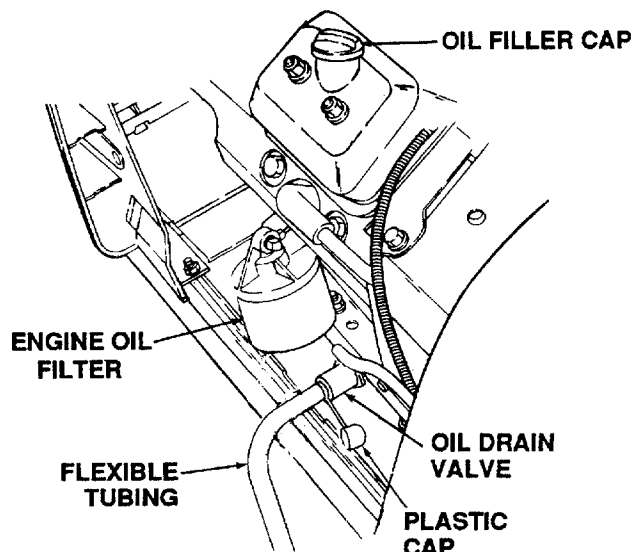

Figure 21
The oil filter is located behind the left side panel and is mounted on the engine (See Figure 21).
3. Unseat the plastic dust cap from the engine oil drain valve. To prevent loss of the cap, do not remove the cap's retaining ring from the drain valve (Refer to Figure 21). Remove the dipstick.